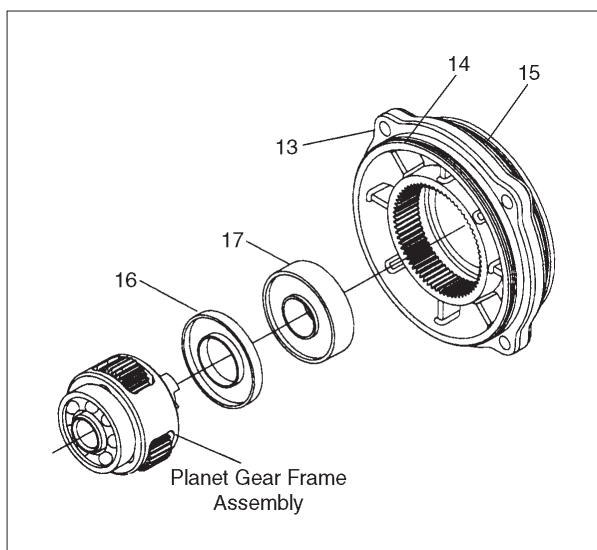

Fig 3.
12) Remove the intermediate gear case assembly from the vice and remove the intermediate pinion (26). Remove the rear gear case O-ring (14) and front gear case O-ring (15) from the intermediate gear case (13), See fig 3.